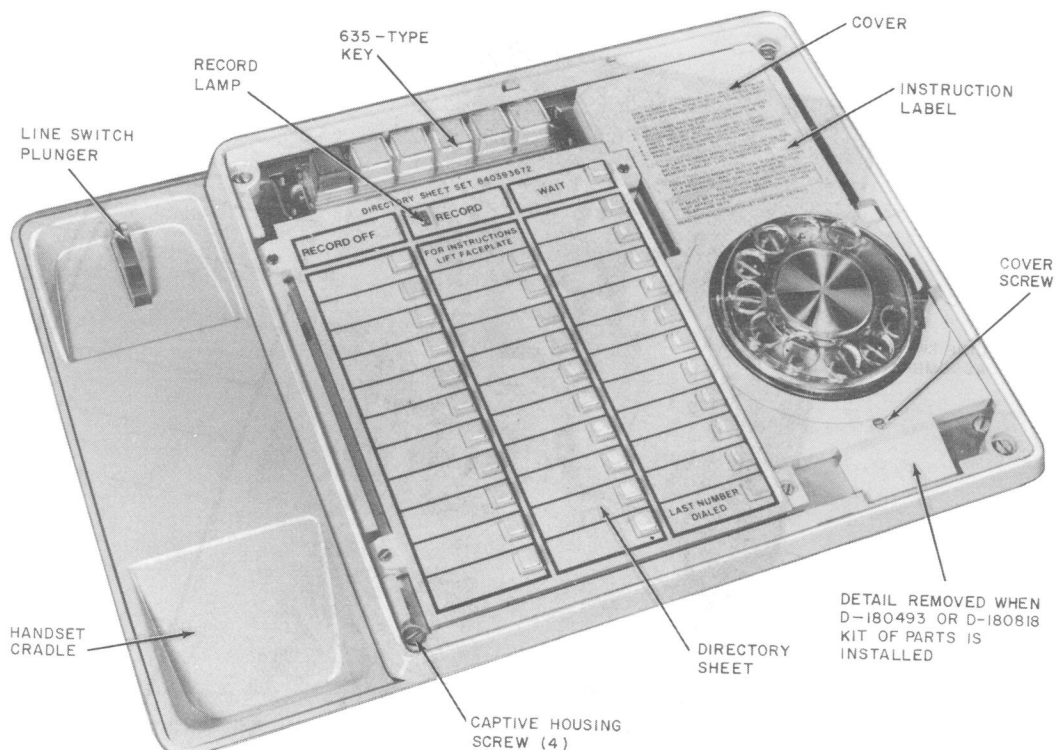

Fig. 2—872A1M Telephone Set—Faceplate and Handset Removed
**2.09** Operating features (Fig. 2) are as follows.
- Line key (635BT5), 6-button key. Hold with five line pickup buttons which are convertible to nonlocking. An additional momentary contact (logic reset switch) is attached to the hold side of the key to reset the logic circuit anytime a key button is depressed.
**3.05** The directory sheets (Fig. 2) fit over the buttons of the memory and are held in place by the faceplate. Additional sheets are available in directory sheet set, 840393672.
- (3) Lock the board into position by inserting the self-threading screw through the right side of the chassis.
- (4) Mount the one-touch calling switch below the dial with the two screws provided.
- (5) Make connections per Table C, E, or F.
- (6) Break off the detail at the bottom of the cover (Fig. 2) and trim edge as required.
- (7) Verify correct operation of option.
- (8) Reassemble set.